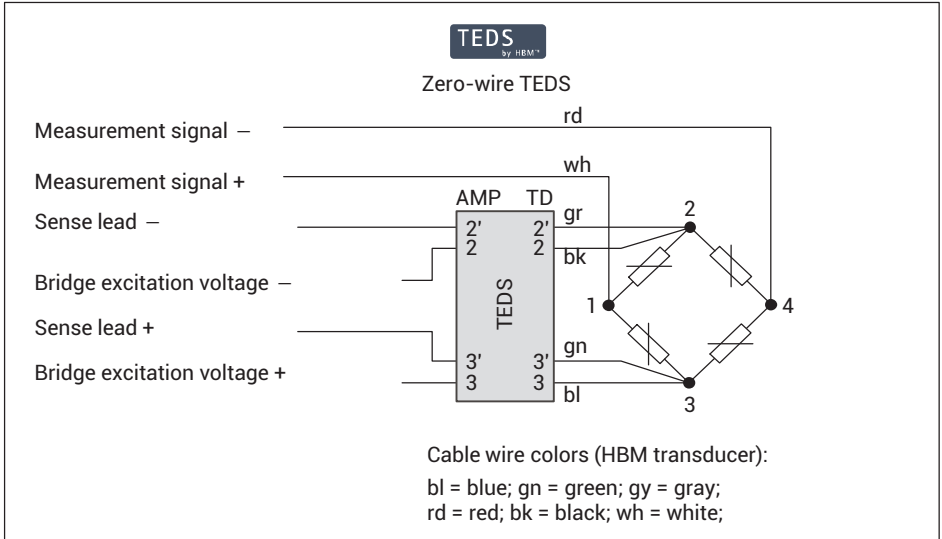
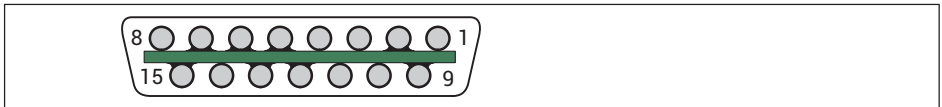
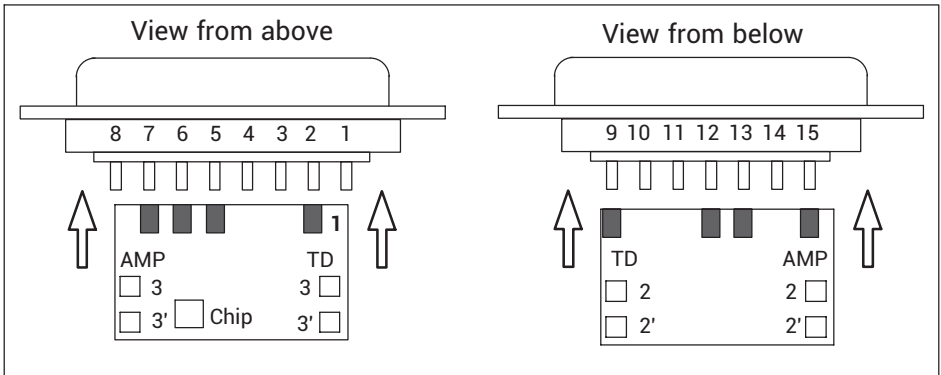

Fig. 2.11 Module wiring with a full bridge; with a half bridge, connection 4 is omitted
Fig. 2.12 Mounting the TEDS module in the plug
Fig. 2.14 View of TEDS module with plug; TD indicates the connections for the transducer, AMP indicates the connections for the measuring amplifier
► Push in the TEDS module between the soldered connections of the plug as shown in Fig. 2.12 to Fig. 2.14.
- ▶ Solder the cables for the bridge excitation voltage (2 and 3) and the sense leads (2' and 3') to the solder tabs on the TEDS module on the side labeled TD. See Fig. 2.11 and Fig. 2.14.